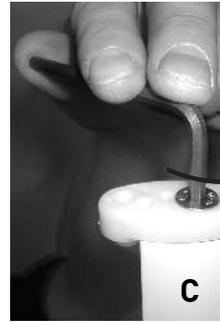
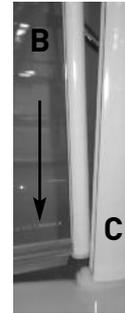

Figure a7
Figure a7i
7. Remove the Top Swivel Moulding from the top of the Main Curved Rail (C) by loosening the screw with the Allen Key (J) (**Figure a7**). Locate the Glass Screen (B) over the top of the Bottom Swivel Moulding (**Figure a7i**). Ensure the Glass Screen is pushed fully down over the top of the Bottom Swivel Moulding.